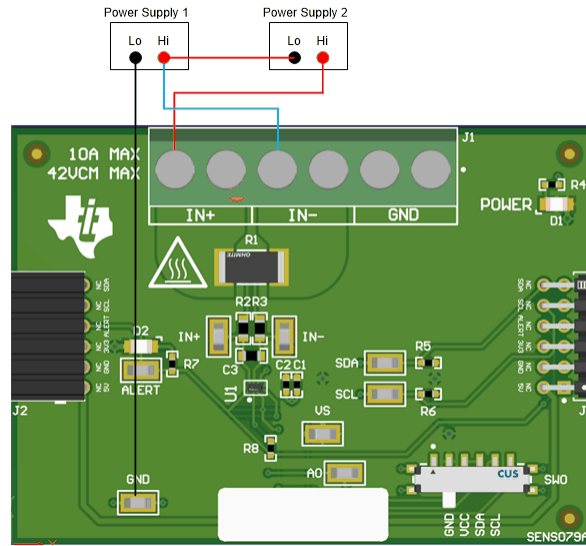
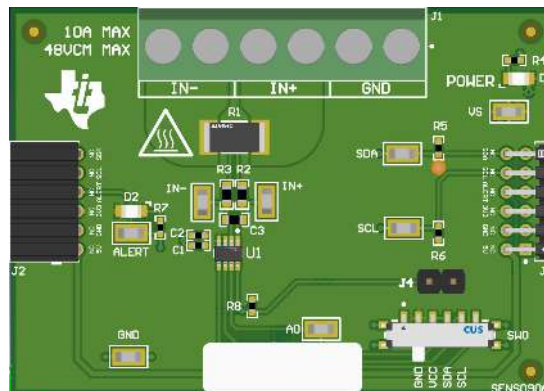

Figure 4-14. IN+ and IN– Wiring Without a Shunt Resistor
Figure 4-15. INA232EVM
1. Connect a differential voltage across the IN+ and IN– terminals (see Figure 4-14). Note that INA234EVM or INA236EVM is used for illustration. In screw terminal J1, IN+ and IN– are swapped for the INA232EVM (see Figure 4-15).